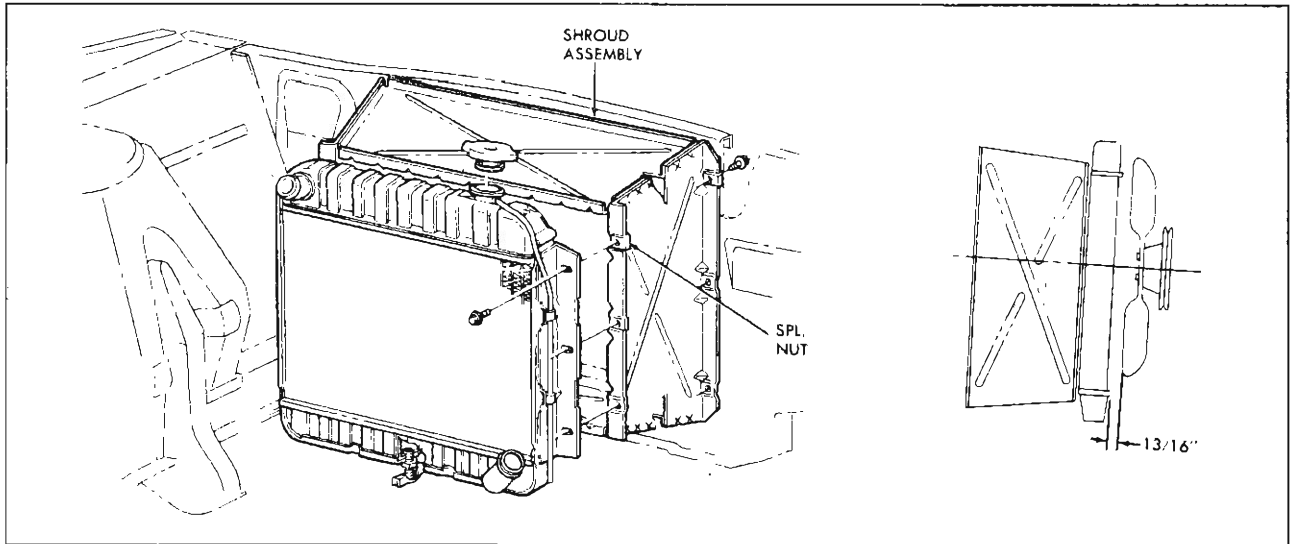

Fig. 29—Radiator Shroud Assembly
See Figure 29
1. Position shroud on radiator support and install cap screws (6).
3. Check distance of fan to radiator core which should be .80" minimum as shown in Figure 29.